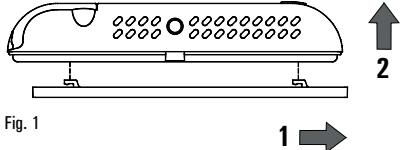

Fig. 1
- Release the wall mount plate fitted under the base of the chronostat as shown in Fig. 1.